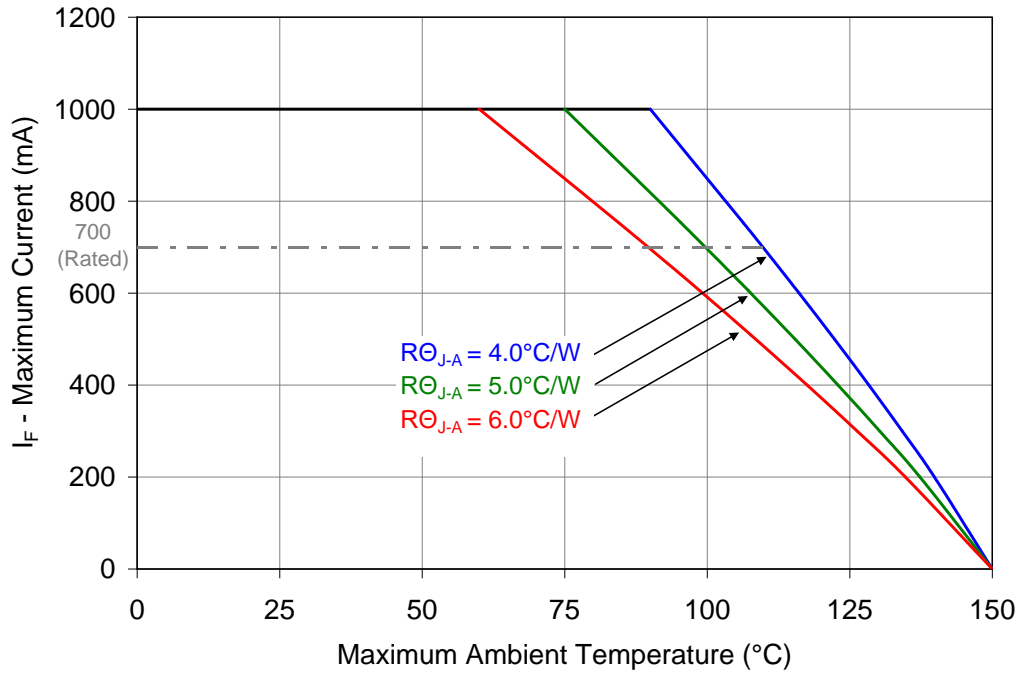

Figure 11: Maximum forward current vs. ambient temperature based on $T_{J(MAX)} = 150^{\circ}C$.
- Maximum DC forward current (per die) is determined by the overall thermal resistance and ambient temperature. Follow the curves in Figure 11 for current derating.
Notes for Figure 11: